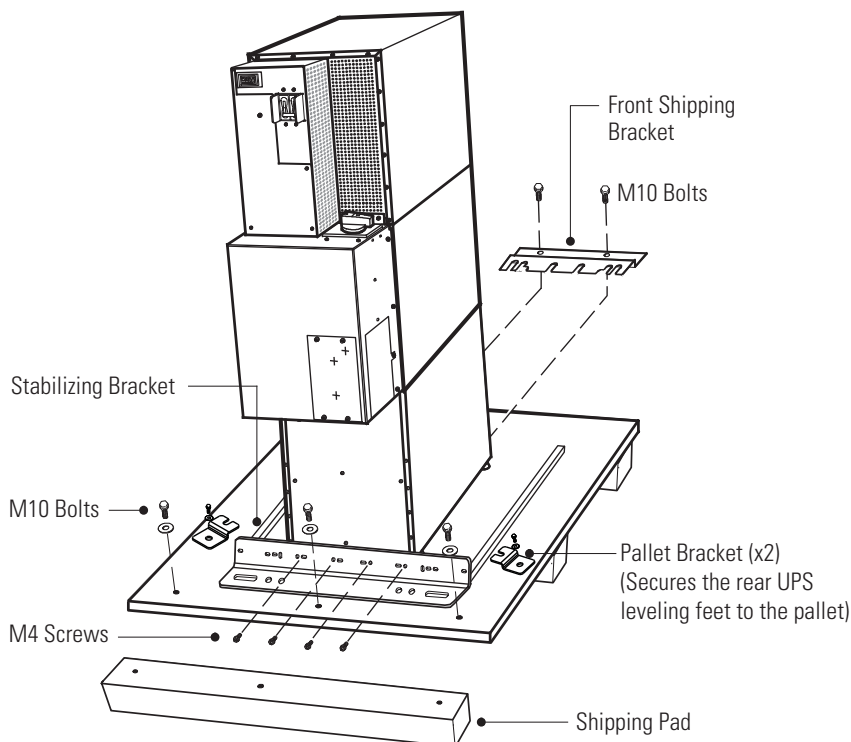

Figure 3. Removing the Brackets and Shipping Pad
2. Remove the M10 bolts from the two Pallet Brackets securing the leveling feet to the pallet (see Figure 3).
3. Remove the four M4 screws securing the stabilizing bracket to the cabinet rear panel and remove the bracket (see Figure 3). Retain the hardware for later use.